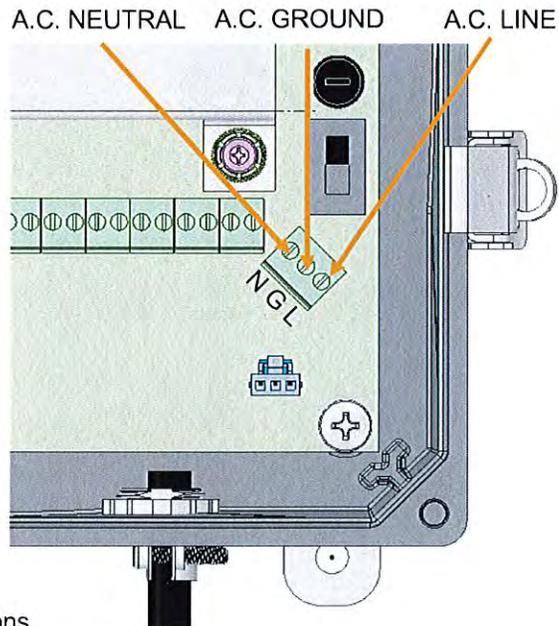
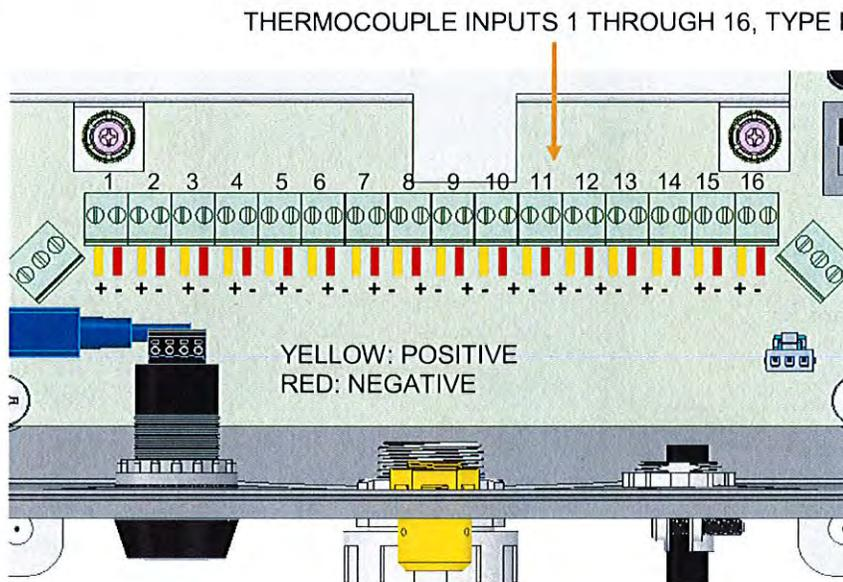

Figure 3. A.C. connections.
Figure 4. Thermocouple connections.
2.1 The Pyrometer requires 120Vac (see figure 3 for connections) and 16 type K thermocouples, (see figures 4 for connections).